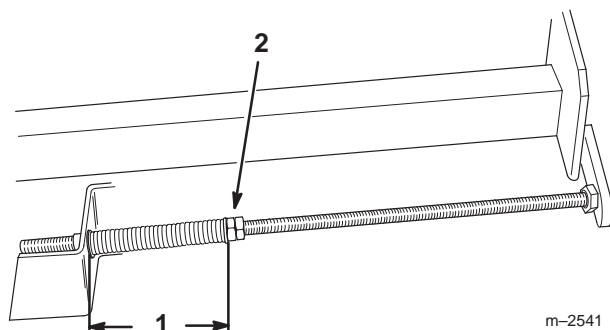

Figure 28
6. Tighten the jam nuts on the adjusting shafts until the springs are compressed to a length of 5 inches (12.7 cm) (Fig 28).